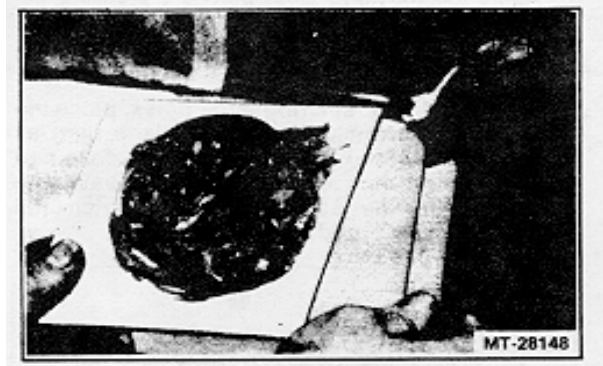

Figure 53 - Applying Body Filler
- Work the filler into the repaired surface with a squeegee, making sure to fill all voids and remove large air bubbles (Figure 53).